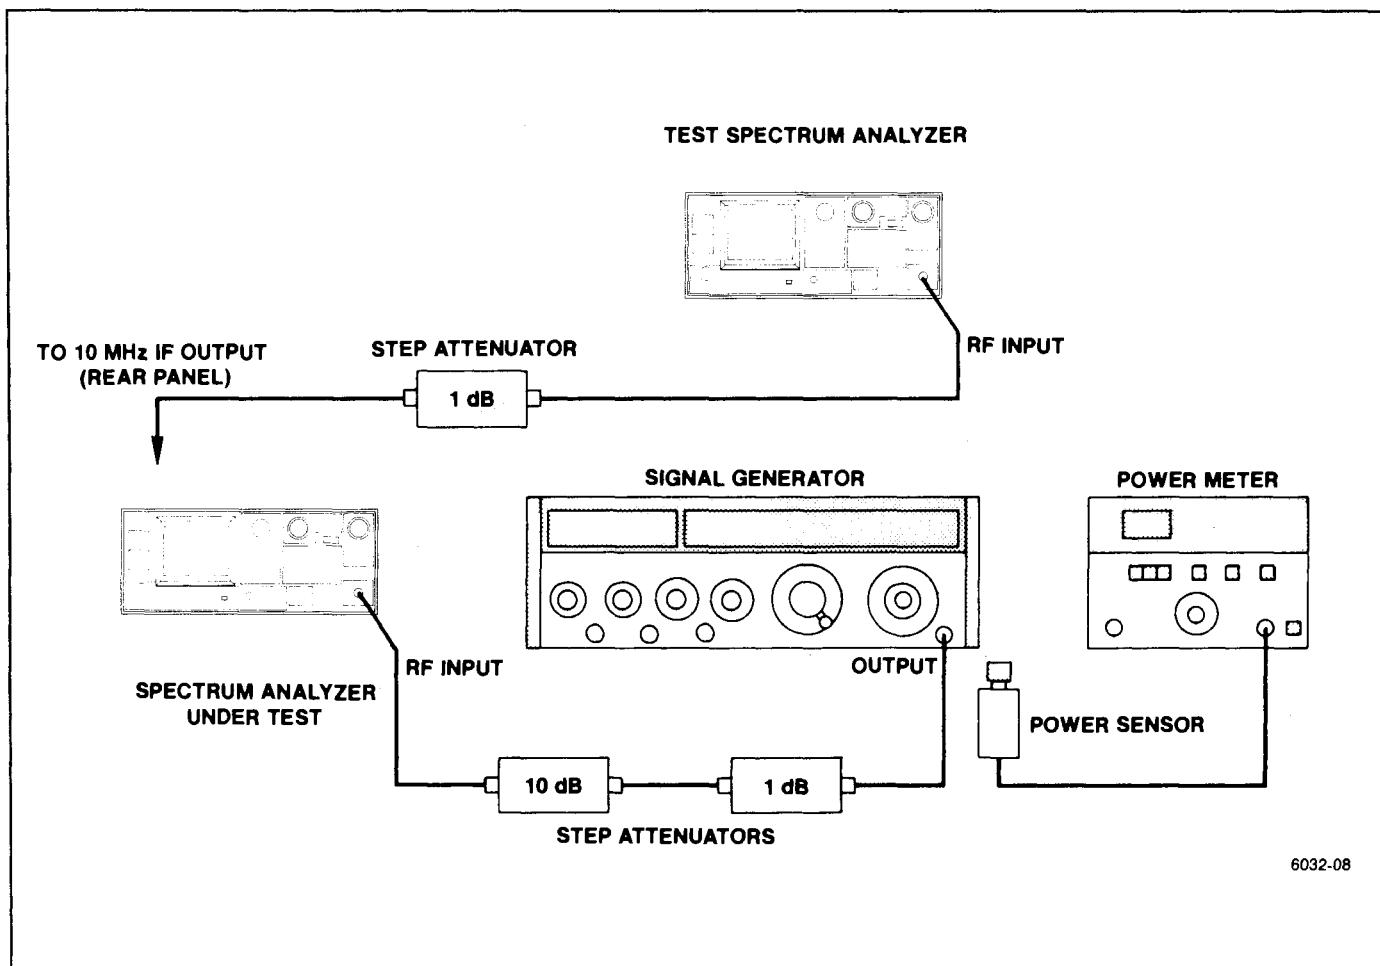

Figure 4-17. Test equipment setup for checking 1 dB input compression point.
b. Connect the test equipment as shown in Figure 4-17, using the generator with the calibrated output level. Set the Spectrum Analyzer controls as follows: